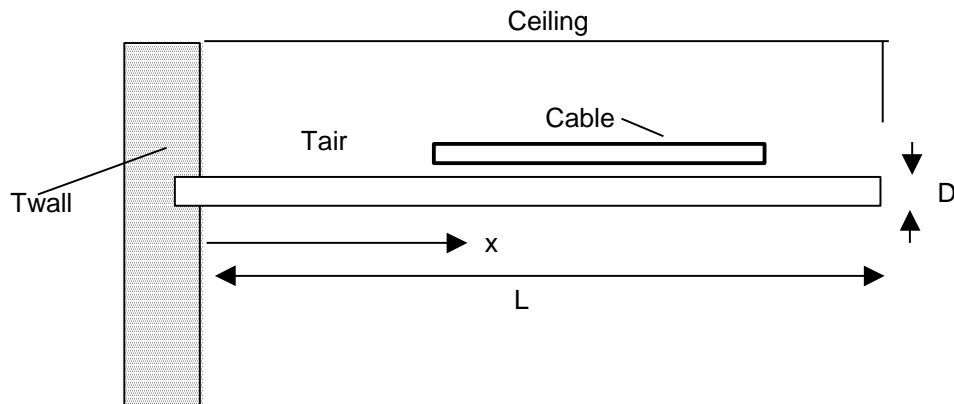

Figure 1 – Rod heated at one end
As shown in Figure 1, the cylindrical rod, made of brass, is heated at its base by an electrical heater simulating the hot engine room wall, and cooled by surrounding air, assumed to be stagnant. So thermal energy is conducted along the rod and convected into the surrounding air. The fin is instrumented with thermocouples along its length to obtain the temperature T as a function of distance x along the fin.
3. Comment on the test conditions. Are we accounting for all of the heat transfer mechanisms possibly involved? Are there heat losses in addition to the rod surface? (Suggestion: calculate Q from equation (5) for one of your power levels and compare to measured Volts*Amps at that level).
4. You were not given the exact circumstance of position on the ship. Suppose the rod was near the ceiling, as sketched in Figure 1. Would you expect your lab results would still apply? Why or why not?